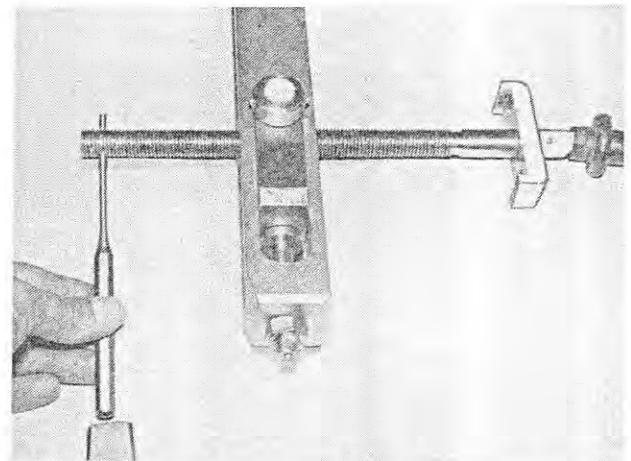

Fig. 249
8. Start the tapered pin out of the spindle (Figure 249). Unscrew the spindle from the middle sliding pad.